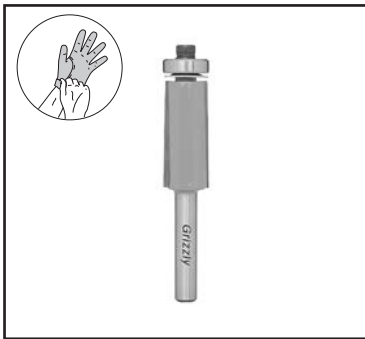

Figure 3. Example of flush trim bit.
3. Select an appropriate flush trim bit for your router (see **Figure 3**).